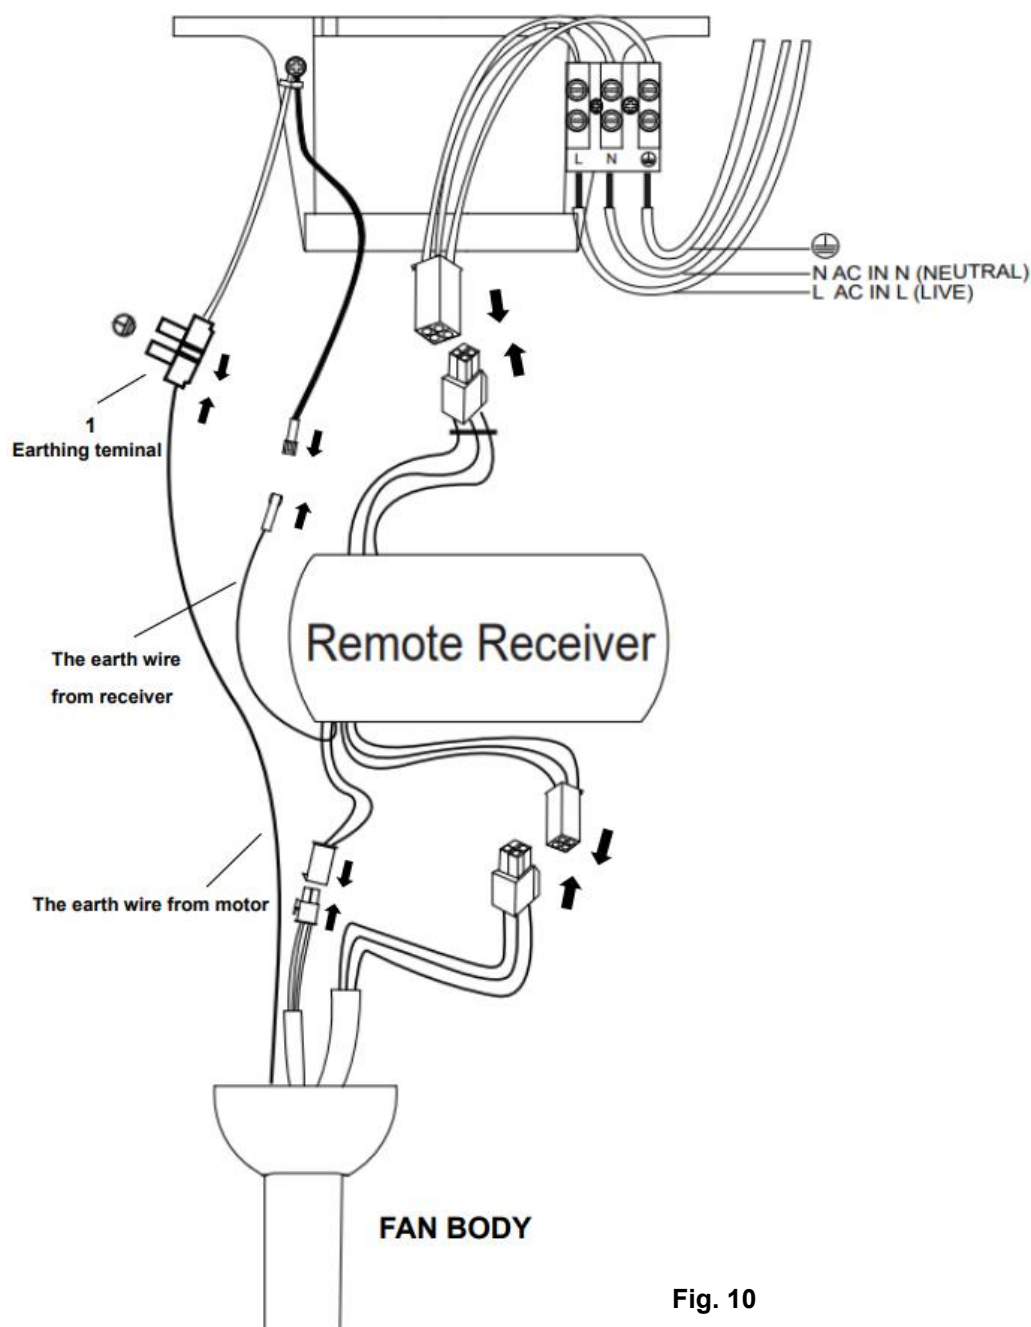

Fig. 10
PREPARE AND COMPLETE THE ELECTRICAL WIRING --- WIRING DIAGRAM (FIG. 10)
NOTE: Ensure the motor earth wire is connected to the single earthing terminal block "1" in the diagram below (Fig. 10).
4. Connect the motor earth wire to the single earthing terminal block "1" in the diagram below. (Fig. 10)